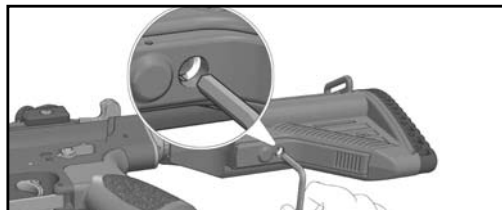

Fig. 49 – Buttstock Tightening Screw
- b. Check to ensure that the buttstock tightening screw is loose before attempting to remove the buttstock. If tight, insert the large tip (3mm hex) of the MR762A1 Disassembly Tool into the tightening screw and rotate (but do not completely remove) counter clockwise (Fig. 49). For cleaning and general maintenance purposes, it is not necessary to remove the buttstock.